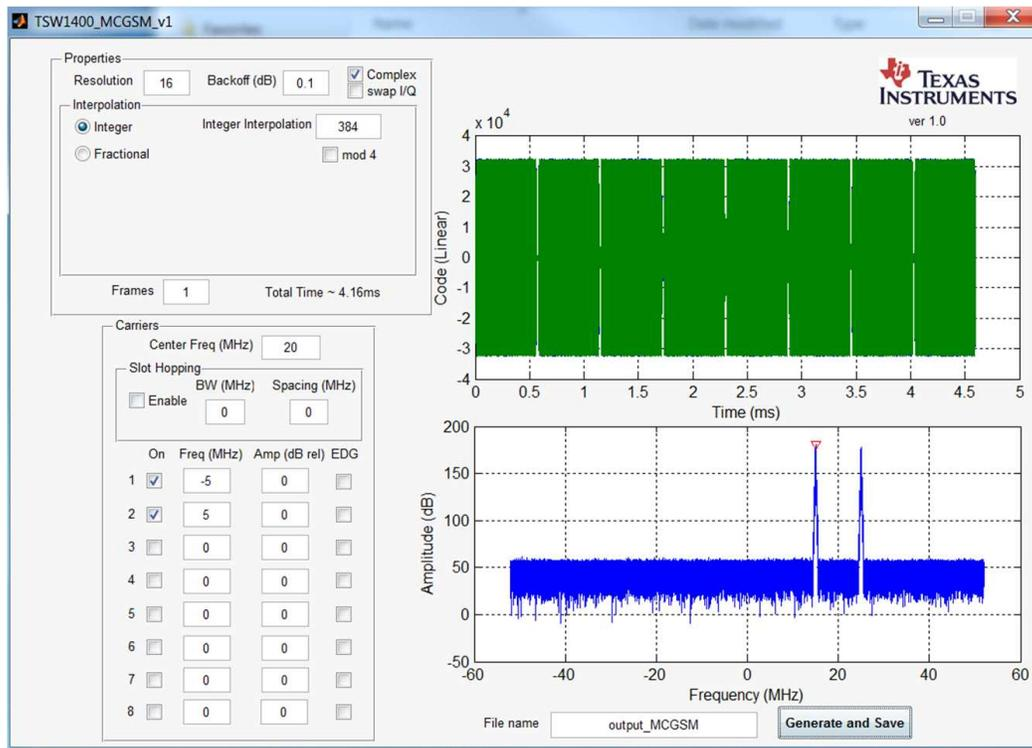

Figure 16. TSW1400 MCGSM Pattern Generator User Interface
1. Enable signals 1 and 2 and set their corresponding frequencies to -5 and 5 MHz, respectively. Set the carrier frequency to 20 MHz and keep all other values at the default as shown in Figure 16.
4. To generate the correct spectrum, set the **Data Rate** to 104 MHz [that is, data rate = 207.833 kHz × interpolation (384) = 104 MHz]. Also set the DAC option to 2's complement and the window to Blackman.